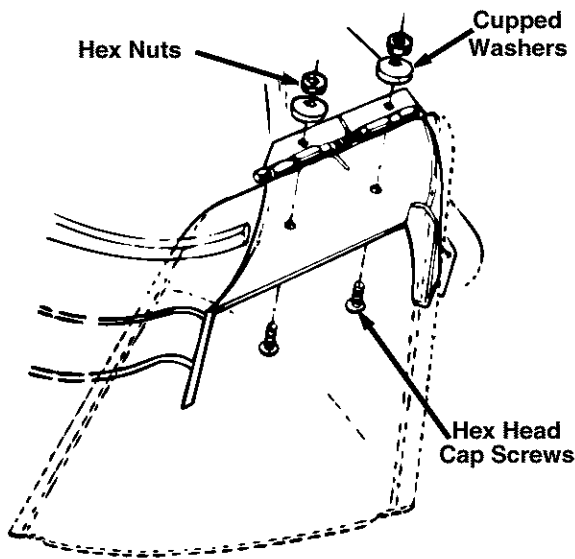

Figure 5
- Place the chute deflector in position as shown in Figure 5. Secure with hardware just removed. Cupped sides of washers go against the chute deflector.